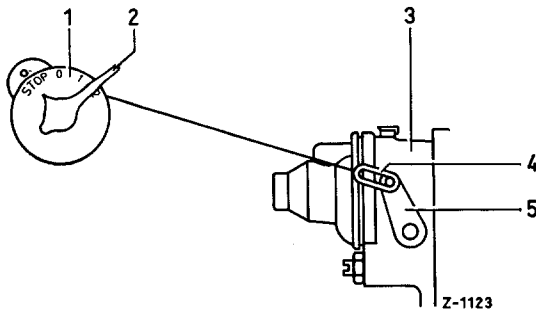

Figure 00-13/1
1. Turn the handle (2) of the glow starter switch (1) fully counterclockwise (stop position) and at the same time have a second person check the position of the control lever (5) at the injection pump. In this position the control lever (5) at the injection pump must be fully drawn back to the stop position by the eye (4) of the cable control (see Figure 00-13/1). The plungers of the injection pump are then in the no-delivery position, the engine no longer receives fuel and stops.
The cable control can be adjusted by shifting the wire spiral (sleeve) in the fixing clip or by moving the wire cable in the lever of the glow starter switch. The control lever (5) must be securely fixed on the shaft of the injection pump (see Figure 00-13/1).